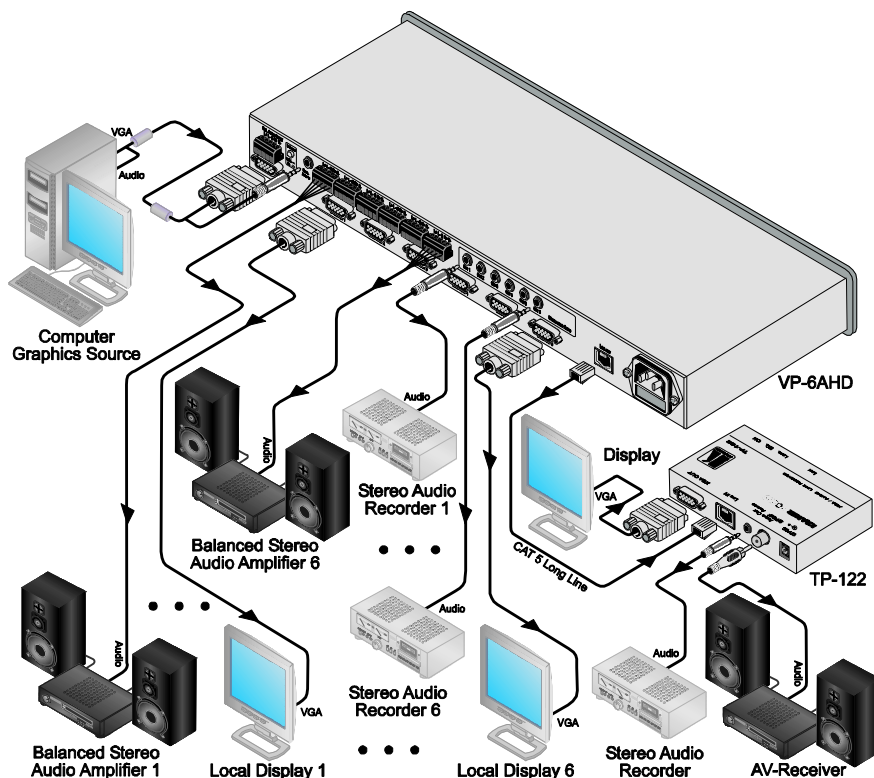

Figure 3: Connecting the VP-6AHD
The example in Figure 3 illustrates how to output a computer graphics signal (and audio) from a computer to up to six local monitors, as well as how to transmit it over UTP cabling to a **TP-122 XGA / Audio Line Receiver**.
5. Connect the power cord⁸ to the **VP-6AHD** (not illustrated in Figure 3).